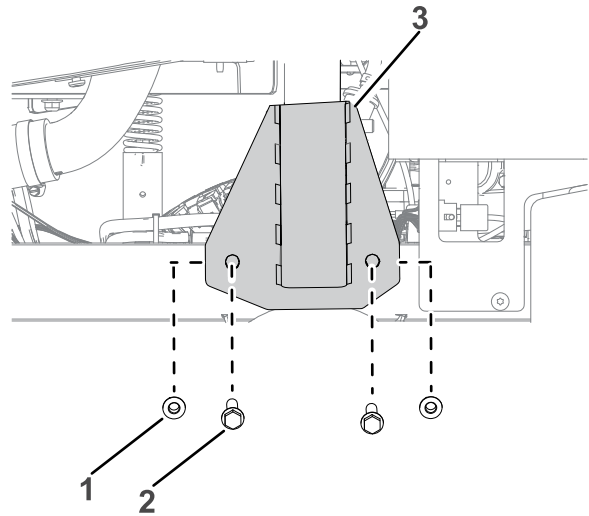

Figure 5
1. Install the ROPS mount to the machine frame above the axle as shown in Figure 5. Repeat on the other side.